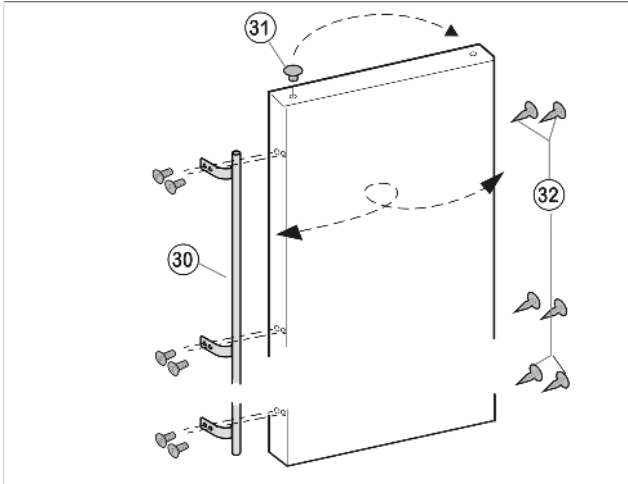

Fig. 22
- ▶ Pull plugs *Fig. 22 (31)* out of the door bearing bushes and move them to the other side.
- ▶ Detach the door handle *Fig. 22 (30)* and plug *Fig. 22 (32)* and move them to the opposite side.